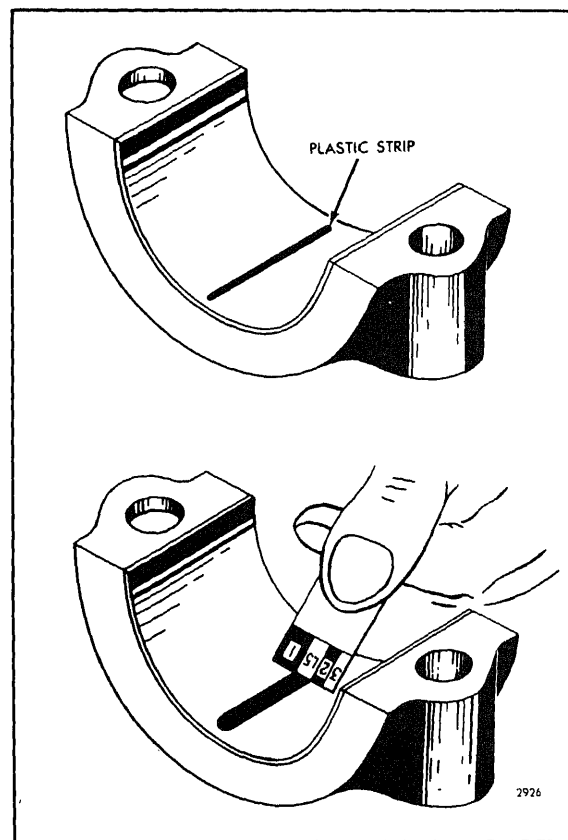

Fig. 1 - Using Plastic Strip to Measure Bearing-to-Crankshaft Clearance
2. Place a piece of the plastic strip the full width of the bearing shell, about $1/4''$ off center (Fig. 1).
(Fig. 1). The number within the graduation on the envelope indicates the bearing clearance in thousandths of an inch. Taper may be indicated when one end of the flattened plastic strip is wider than the other. Measure each end of the plastic; the difference between the readings is the approximate amount of taper.